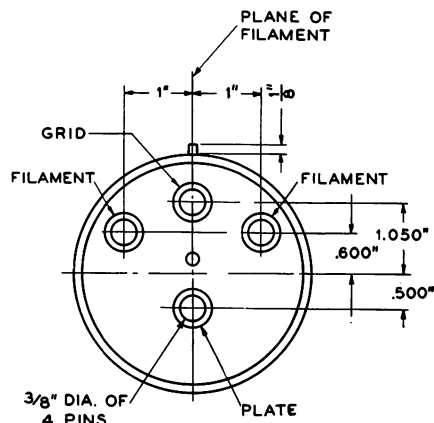

FIG. 2
**Mounting**—Large four-pin bayonet base for use in a W. E. 113A or similar socket, for either vertical or horizontal mounting. If mounted horizontally the plane of the filament, which is indicated in Figure 2, should be vertical.